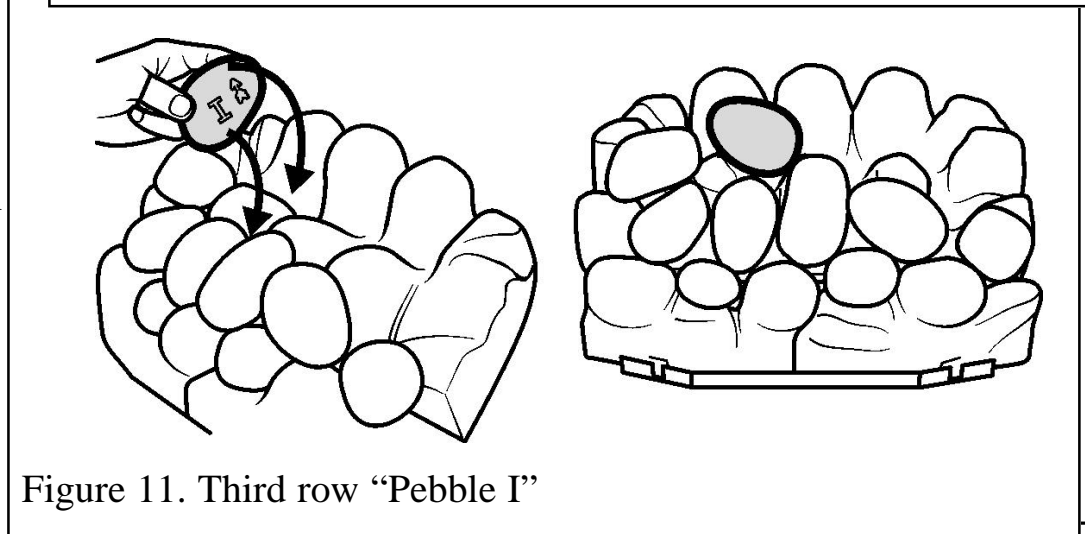

Figure 11. Third row "Pebble I"
13. Hold pebble 'I' upright with the arrow pointing to the top. Locate pebble 'I' as shown in figure 11.